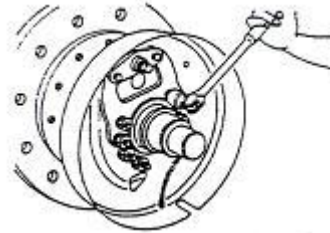

Figure 2-16
(6) Remove the E-shaped retaining ring used for fixing the brake cable on the brake backing plate. Then remove the mounting bolt on the brake backing plate and dismount the brake backing plate from the drive axle. See figure 2-16